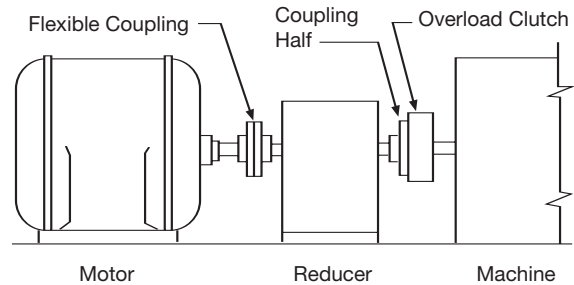

Figure 7
The clutch should always be located as close as possible to the source of an overload condition. Figures 7 through 10 indicate both preferred and not preferred locations for mounting a ORC Series, Model F Overload Release Clutch.
- a. Figure 7 shows the preferred location for mounting in a direct drive application. The clutch is mounted on the low speed side of the reducer, and transmits power from its housing, through its rotor to the driven shaft.